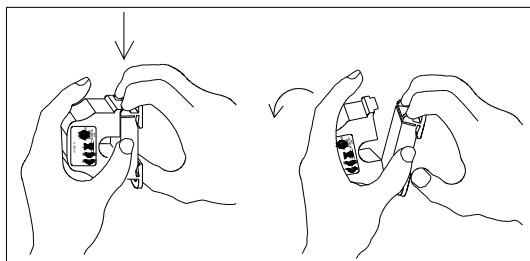
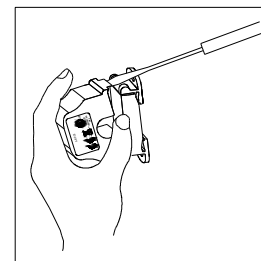

Figure 3: Opening Sensor by Hand
Figure 4: Opening w/ Screwdriver
Pressing down on the two (2) side tabs and swinging the cover open opens the split core current switch as shown in **Figure 3** below. Lifting up on the latch with a flat-tip screwdriver as shown in **Figure 4** below can also open the unit. Press down firmly on the cover to close the current switch. An audible "click" will be heard as the tab slides over the tongue on the base.